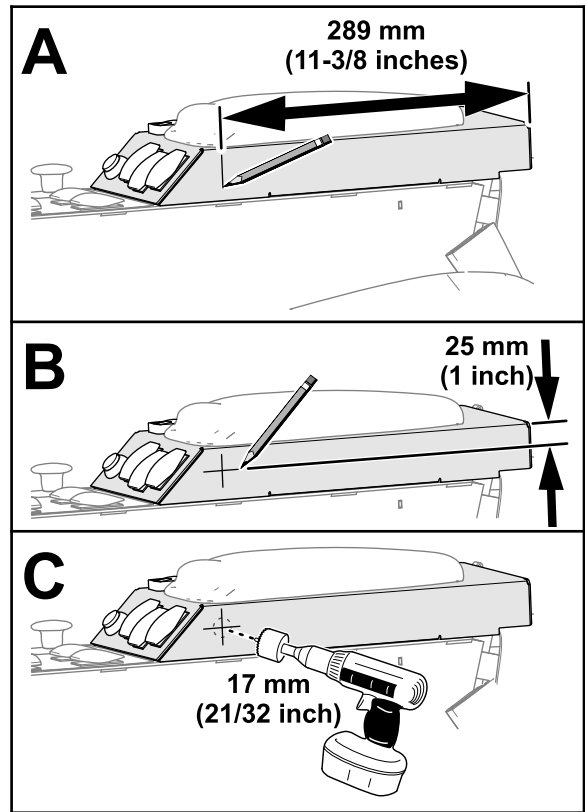

Figure 3
3. Measure 289 mm (11-3/8 inches) from the back of the of the console arm, and mark the surface of the left console panel (Figure 3).
4. Measure 25 mm (1 inch) from the top of the of the console arm, and mark the surface of the left console panel (Figure 3).
6. Drill a hole—17 mm (21/32 inch) at the center-punch mark (Figure 3).